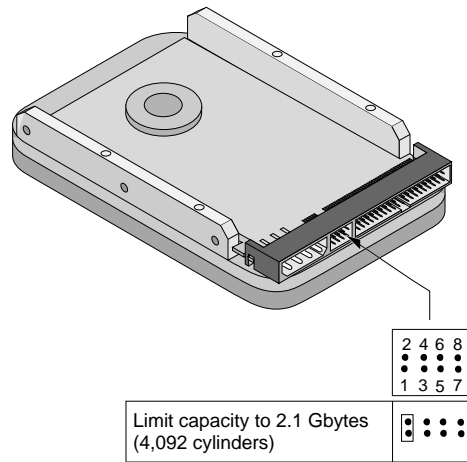

Figure 6. Alternate capacity jumper
2. Move the jumper on the alternate-capacity jumper, as shown in Figure 6. This causes the drive to appear to your BIOS as having a 2.1-Gbyte capacity.